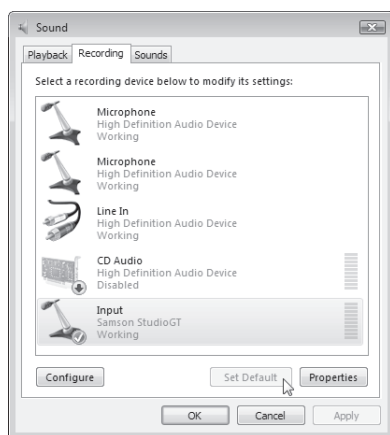

Figure 3
4. If it is not the default device, you can set it under the Sound Properties panel in Control Panel (figure 3).